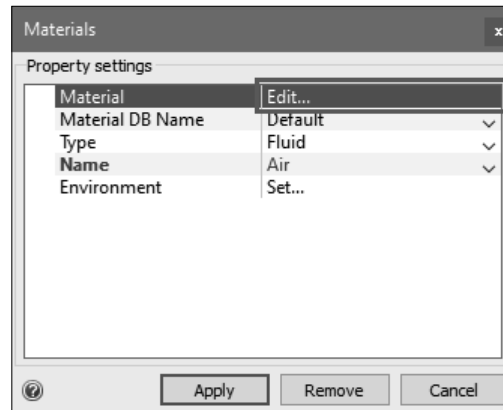
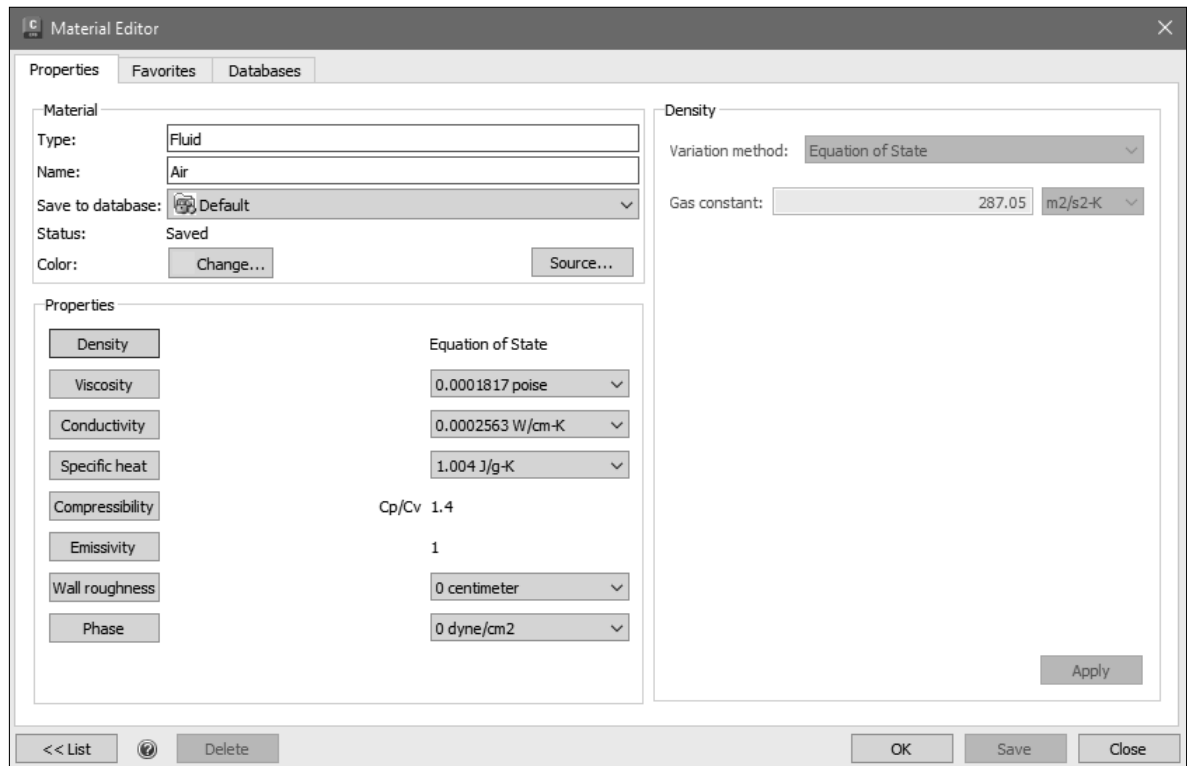

Figure-11. Edit button in Material dialog Box
Figure-12. Material Editor dialog box
- Click on the **Edit** button from **Materials** dialog box; refer to Figure-11. The **Material Editor** will be displayed; refer to Figure-12.